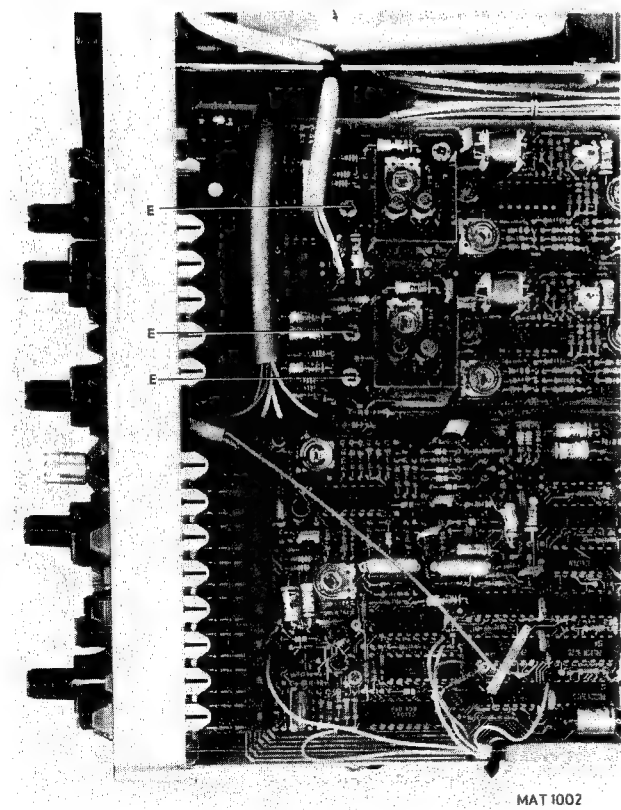

Fig. 6.7.
- Remove the three screws E (Fig. 6.7.).